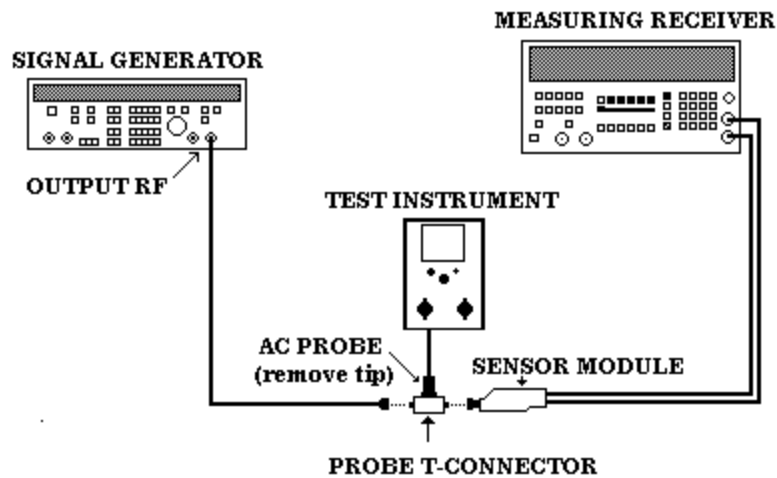

Figure 2. Frequency response - setup.
- (10) Connect measuring receiver sensor module input to calibrator **OUTPUT HI** and **LO**.
- (11) Set calibrator to **OPERATE**.
- (12) Set measuring receiver to measure RF power in dBm at 1 MHz. Record measuring receiver indication.
- (13) Set calibrator to **STANDBY** and disconnect from measuring receiver.
- (14) Connect equipment as shown in figure 2.